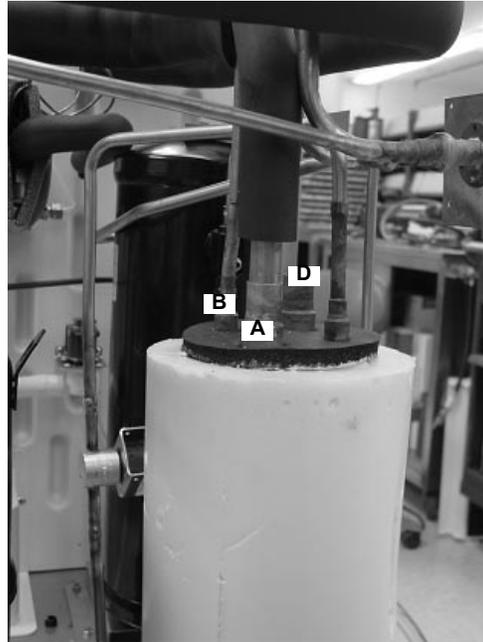

Figure 29.
Place in the suction inlet (A) of the accumulator (Figure 29).
Place in the liquid outlet (B) of the accumulator (Figure 29).
Place in the suction outlet (D) of the accumulator (Figure 29).